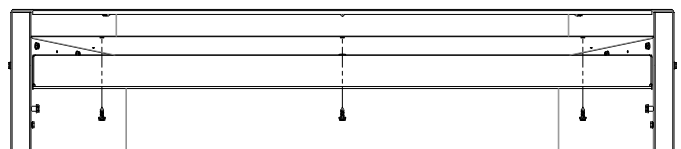

Figure 13. Install Canopy
2. Align canopy with the holes in the top frame assembly. Figure 13.
3. Install the three (3) screws (in owner's manual packaging) which attach the canopy to the top frame assembly. Figure 13.